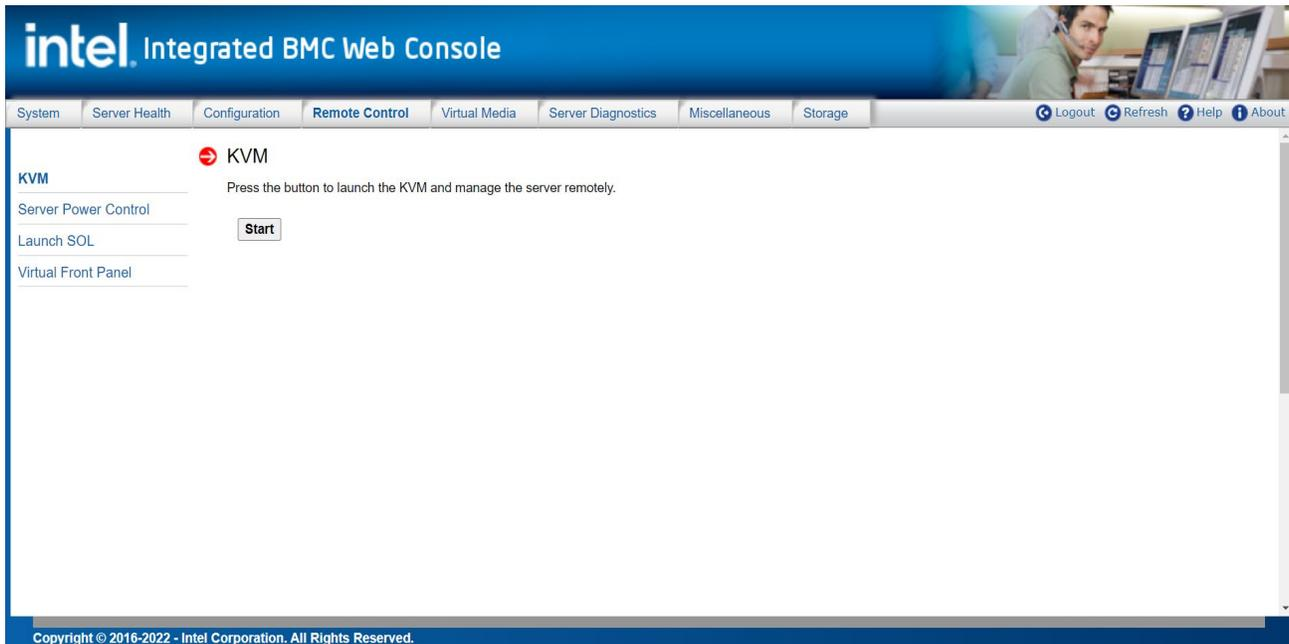

Figure 64. Remote Control Console Redirection Page
3. From a command prompt type the following command line (See Figure 64)
From the KVM Page under the **Remote Control** tab of the Web Console, launch the remote console KVM redirection window by clicking the **Start** button (Figure 64).